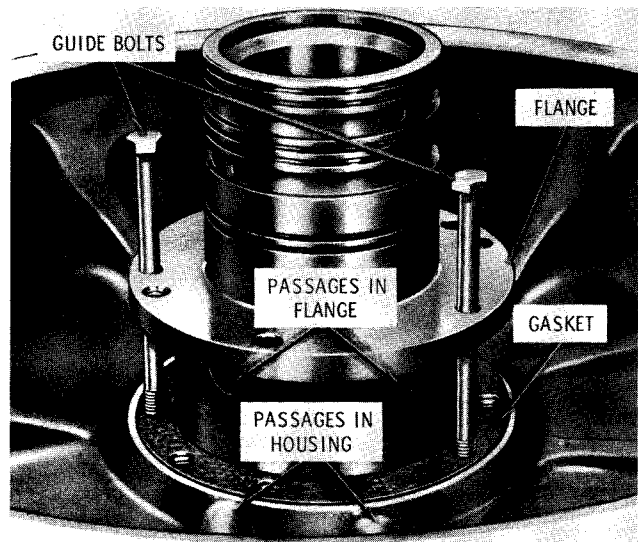

Fig. 7-18. Installing converter housing flange (VH series)
(4) If converter housing flange 3 (A, foldout 13) was removed from converter housing 5, install a new gasket 4 (gasket used on VH series only) and the flange. Use guide bolts to properly align the oil passages in the flange and housing (fig. 7-18). Install five 5/16-18 x 1-inch, self-locking bolts 2 (A, foldout 13), to retain the flange in the housing. Tighten the bolts to 17 to 20 pound feet torque.